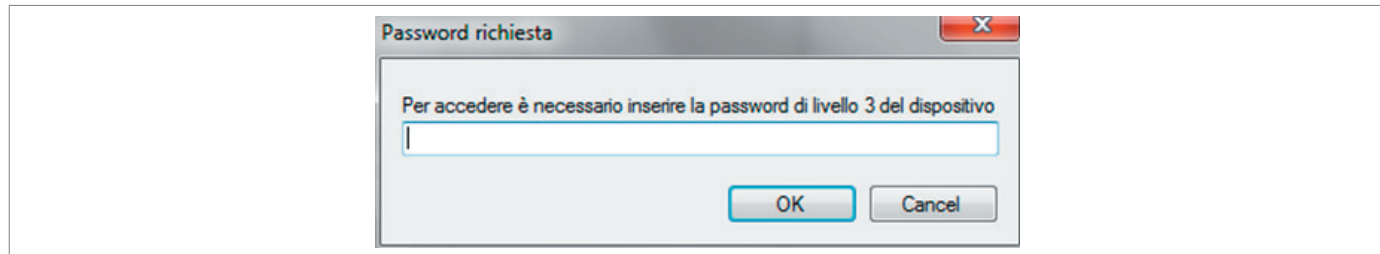

Fig. 8.36. Password request
- **Use saved psw:** If this field is ticked, the password set in the current configuration is used to access the device. If it is not ticked, the user will have to enter the password in the field shown in Fig. 8.36 and confirm with OK.